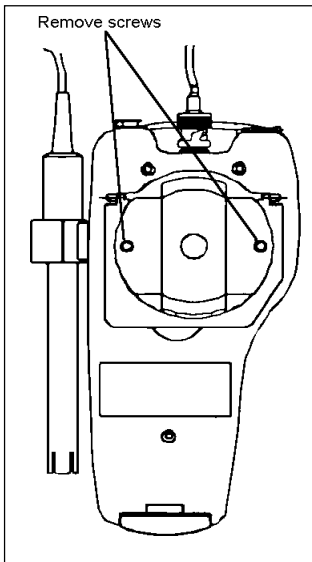

Figure 4: Take out battery cover by removing 2 screws
1. Use a Phillips Head screwdriver, remove the two screws (Figure 4) with the hinge closed.